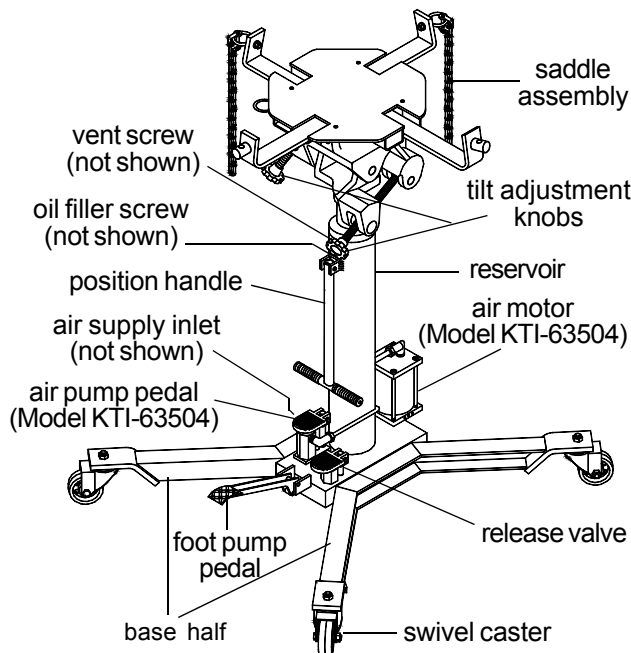

Figure 1 - Model KTI-63503 & KTI-63504 Components
Refer to figure 1:
5. **KTI-63504 only:** Pour a teaspoon of good quality, air tool lubricant into the air supply inlet of the lift control valve (See Fig 1). Connect to air supply and operate for 3 seconds to evenly distribute lubricant.